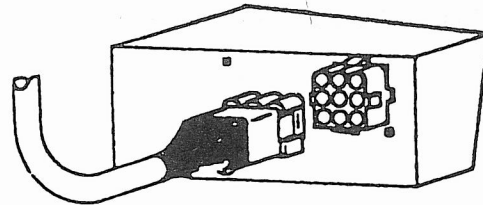

FIGURE 6
- B. Take the roof top air conditioner electrical conduit and plug it into the back of the thermostat control box. Make sure that the "ridged" side of the plug is aligned and matched with the "ridged" side of thermostat control box connection. DO NOT USE EXCESSIVE FORCE and make sure the lock-in tabs are snapped in place. See Figure 6.